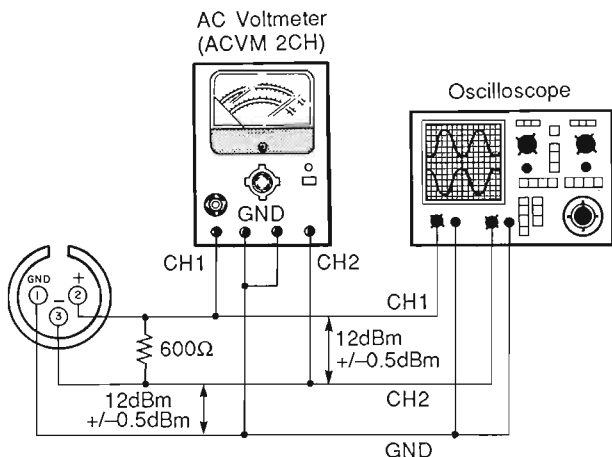

Fig. 14
- ② Adjust VR703 so that the TP700 signal is minimized.
- ③ Repeat above items 1 and 2 for the Right channel adjusting VR704 so that the TP701 signal is minimized.
- ① Place the test disc TX911730 (SONY YEDS-18) on the turntable and hold the disc in place with depressor weight.
- ② Make a dummy load by attaching a 600 ohm resistor between the hot and cold terminals (pins 2 and 3) of a female XLR connector as shown in the figure 14.
- ③ Insert the dummy load into the Left channel ANALOG OUT connector.
- ④ Play track number 2 (1KHz, 0dB).
- ⑤ Adjust the output level with VR702 for Left channel.
この時、オシロスコープを接続すると出力信号のホット端子とコールド端子では位相が180°反転していることが確認出来る。(Fig.14)